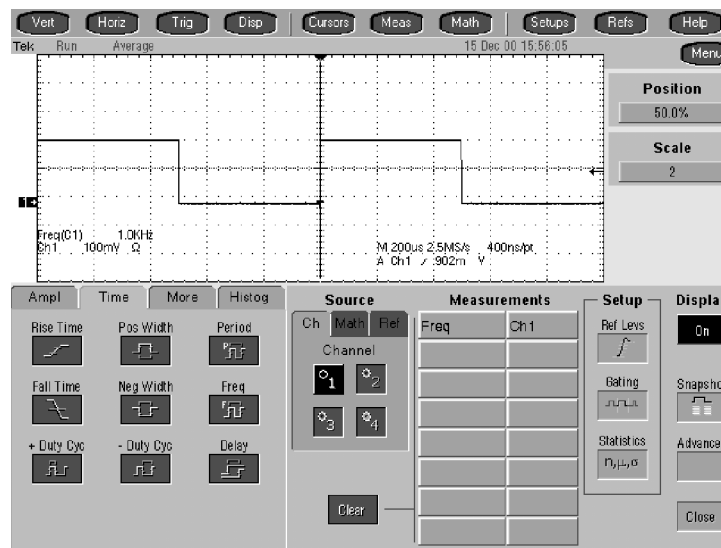

Figure 4-31: Measurement of probe compensator frequency
- CHECK that the **CH 1 Freq** readout is within 950 Hz to 1.050 kHz, inclusive. See Figure 4-31.